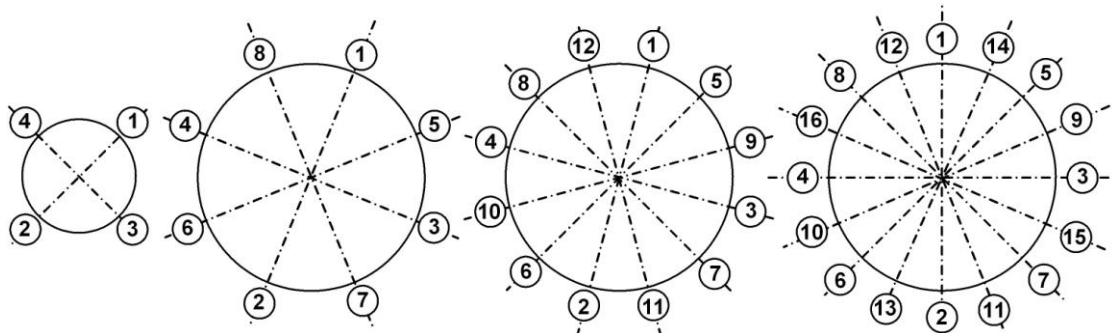

Fig.6. Order of tightening flange nuts
3.2.7.4. When mounting the flow meter (simulator) into the pipeline, tighten nuts by a torque indicating wrench in order specified in Fig. 6. Maximum torque value is specified in Table 2. **Exceeding of torque value may cause damage to the flow tube followed by leaking liquid into the MF case.**